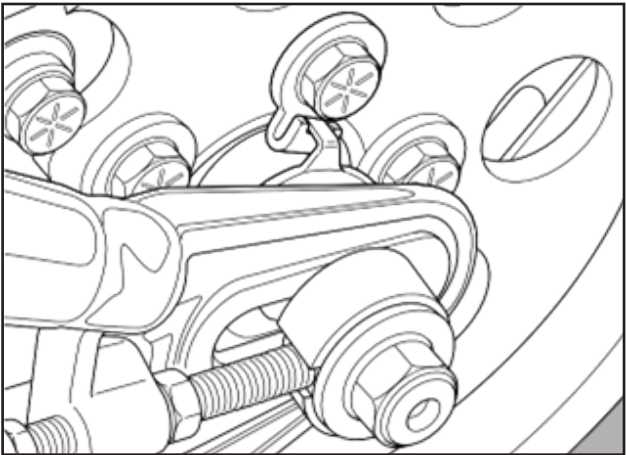

Figure 3. Rotator Washer
10. See Figure 3. Install speedometer drive rotator washer onto sprocket with bolt removed in step 5 while locating tab of speedometer drive in slot of special washer. Torque bolt to 55-65 ft-lbs (75-88 Nm).